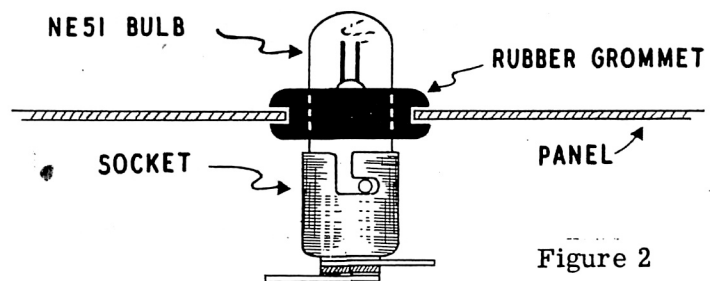

Figure 2
(L) Place the neon bulb in the bayonet socket and slide the bulb into grommet S. See Figure 2.